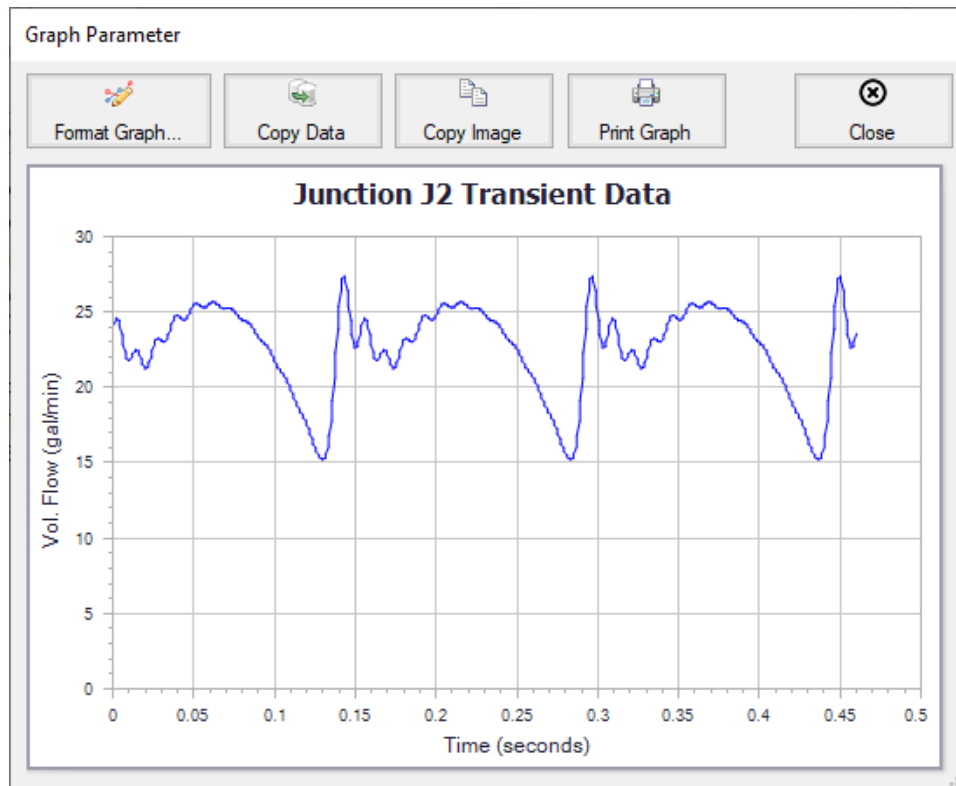

Figure 16: New Assigned Flow transient representing the PD Pump operating at 130.4 RPM
- f. The scenario will now have different transient information in J2, modeling the pump performance at 130.4 RPM. Go to the Workspace and open the Properties window for J2. On the Transient tab click Show Graph under the Transient Data table to verify the Pump Flow Forcing Function has been applied, as shown in Figure 16.